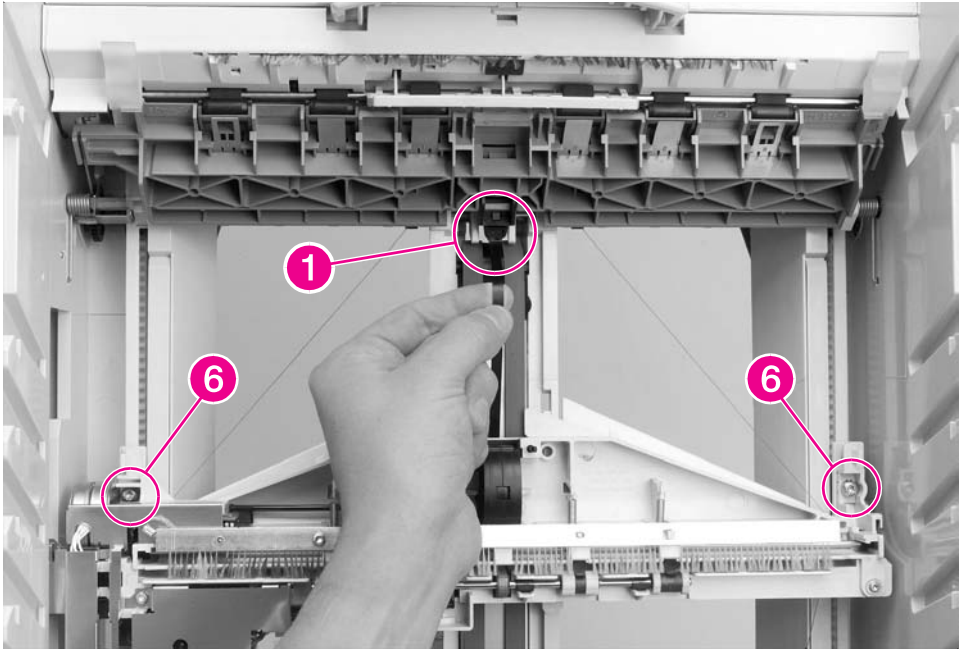

Figure 6-169 8-bin Mailbox Delivery Head Assembly (1 of 4)
- 4 Remove the Delivery Head Assembly from the 8-bin Mailbox frame (see Figure 6-169).
- 3 With the Delivery Head Assembly at the top of the 8-bin Mailbox, hold the Metal Tape near the end, and release the retainer tab that secures the end of the tape to the top of the 8-bin Mailbox frame (Figure 6-169, callout 1). Then let the tape slowly rewind into its housing.
- 8 Hold up the Delivery Head Assembly, and remove the 2 screws that secure it to the elevator mounts: 1 screw on each end of the assembly (Figure 6-169, callout 6). The screw that secures the back end is captive.